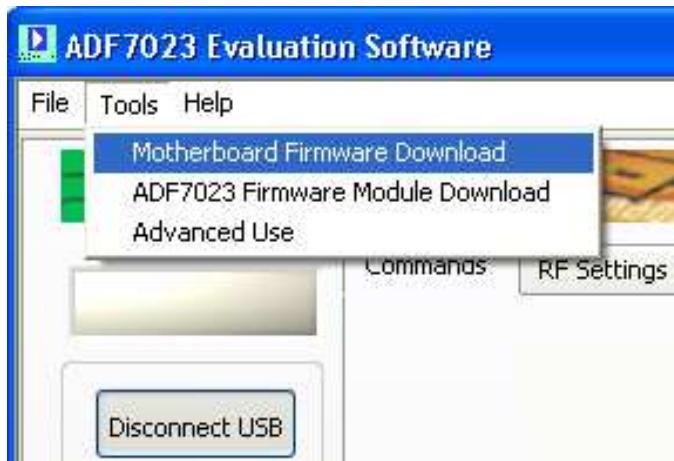

Figure 22
2. To update the firmware select “Tools” -> “Motherboard Firmware Download” (Figure 22).